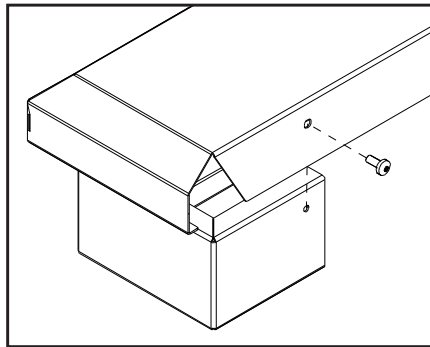

Figure 43: Installing Base Shelf onto Riser.
3. If installing with riser(s) the Base Shelf is to be fastened to the riser(s) with one T-20 screw at each end of the back (see Figure 43).